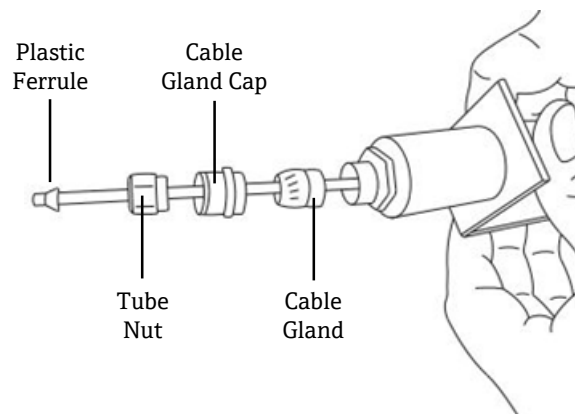

Figure 89. Fittings on oxygen probe (panel side)
10. Extend the probe conduit away from the panel and remove the fittings from the probe tip (panel side). Refer to Figure 89.